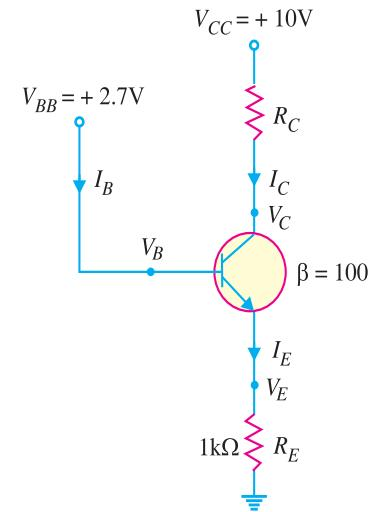

Fig. 8.58
**Example. 8.36.** Determine the state of the transistor in Fig. 8.58 for the following values of collector resistor :